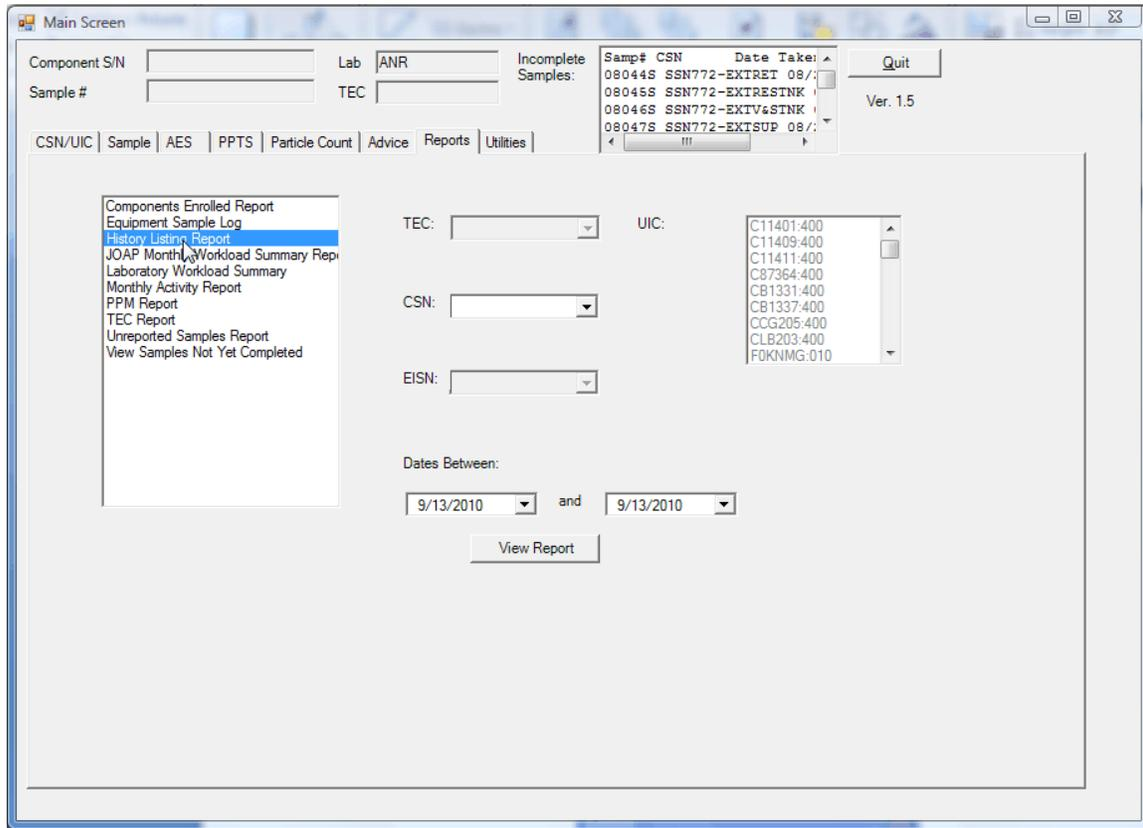

Figure 46. History Listing Report
- c. History Listing Report. Click on History listing report and the following screen will appear (Figure 46). History listing would be run if a one is lost or a squadron has called for one.